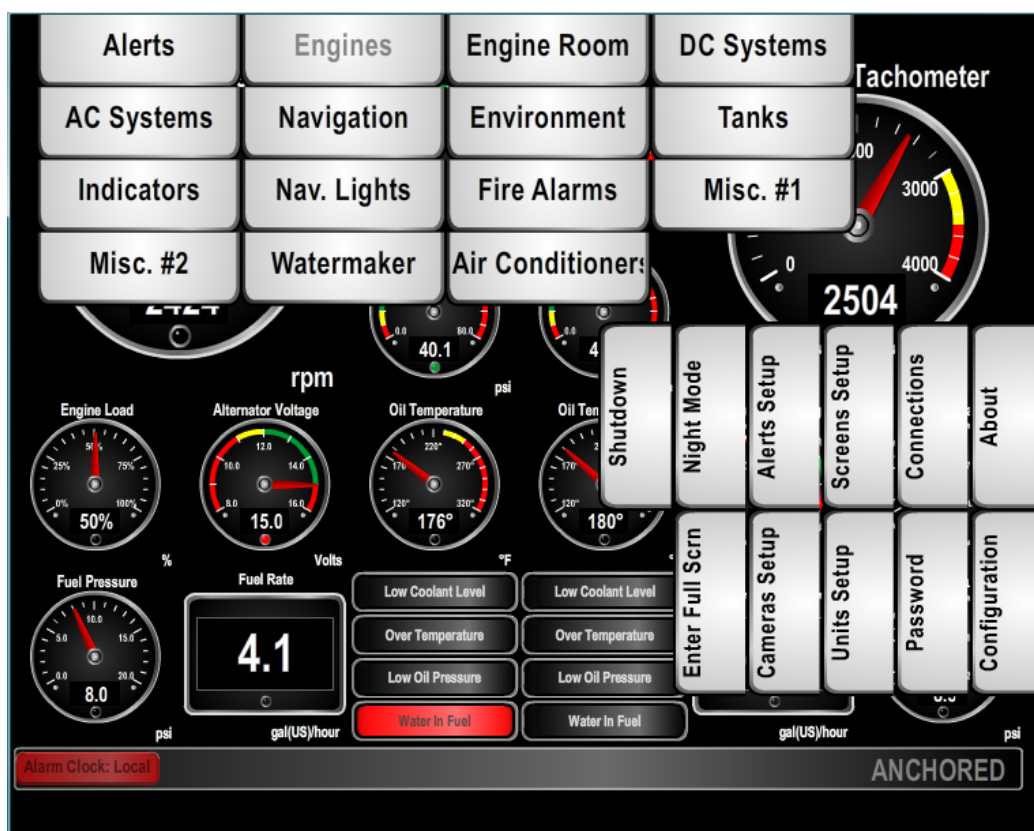

Figure 12 – N2KView® Window with Tabs Displayed
- Click anywhere inside the N2KView® screen to display the screen tabs as shown in Figure 12 above.